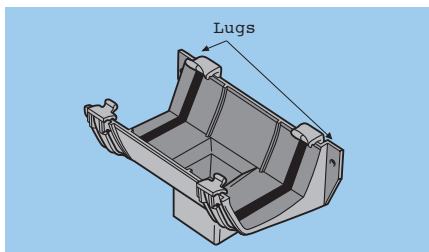

Fig.9a 2200 CORNICHE system
- EITHER integral fixing lugs (Fig.9a)